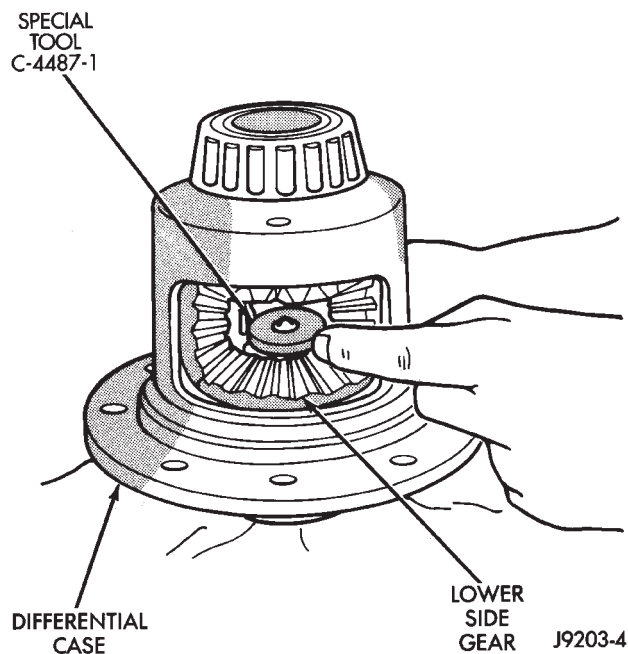

Fig. 45 Step Plate Tool Installation
(6) Install and lubricate Step Plate C-4487-1 (Fig. 45).